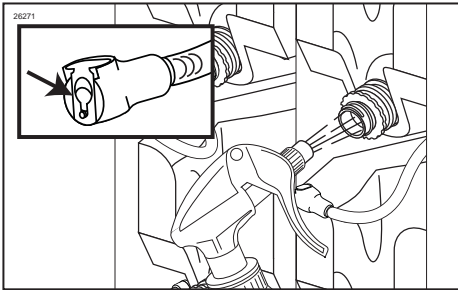

Figure 164
10. Spray the fitment and the Connector with approved sanitizer solution and sanitize for at least 1 minute. (See Figure 164.)